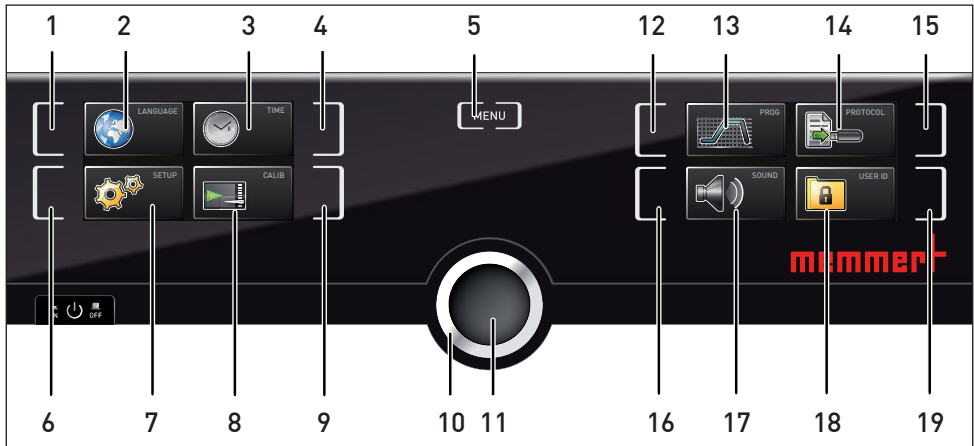

Fig. 33 ControlCOCKPIT in menu mode
3. Switch off the VO with the main switch (Fig. 33).
Fig. 33 switch off VO